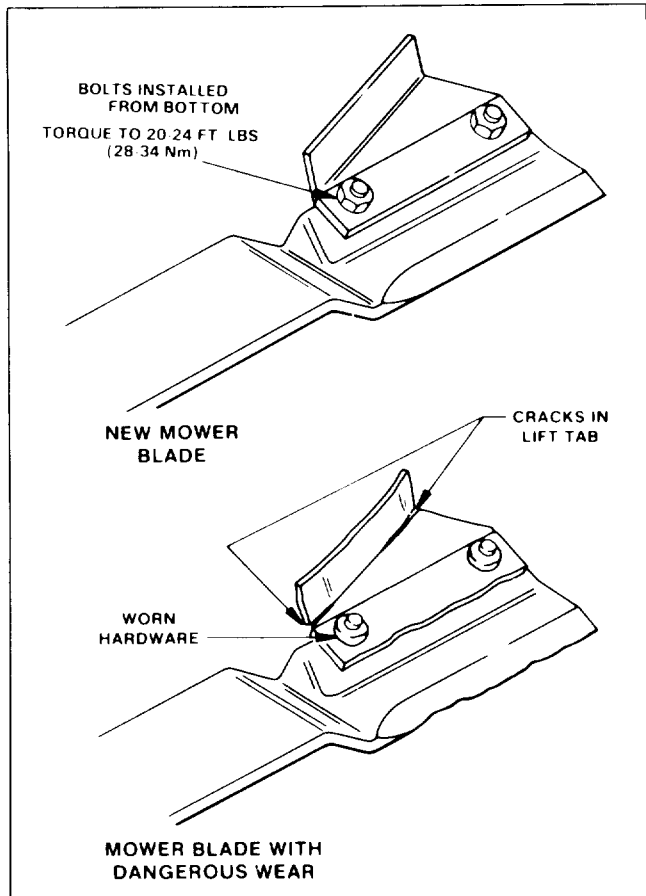

FIG. 14. Inspect High Lift Blade
After first 10 hours of operation, inspect that all parts of bagger and all fasteners are in good condition. Pay particular attention to condition of elbow, tube and top - replace these parts if cracked or broken. Also inspect high lift blade after every 10 operating hours. Refer to Fig. 14, and inspect for cracked lift tabs on blade, or severely worn hardware. Wear will be more significant in dry areas having sandy soils.
2. Install new lift tab as shown in figure 14; use **ONLY** hardware supplied with replacement lift tab. Tighten hardware to specified torque value.